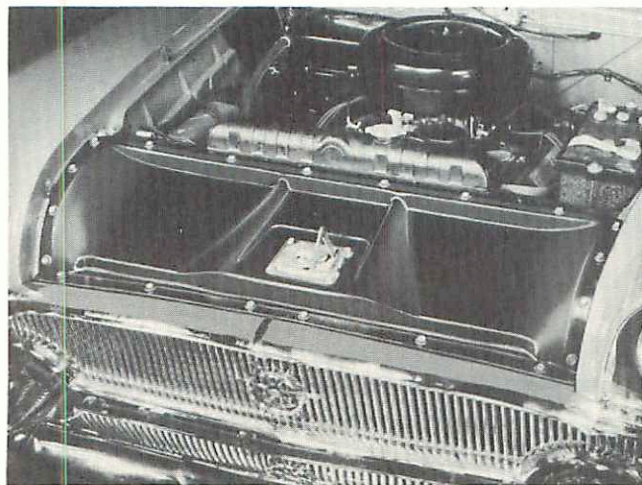

Figure 1—Radiator Top Splasher Removal
**REMOVAL and INSTALLATION**—To remove the top splasher assembly, remove the screws shown in Fig. 1 and lift the assembly off the car.